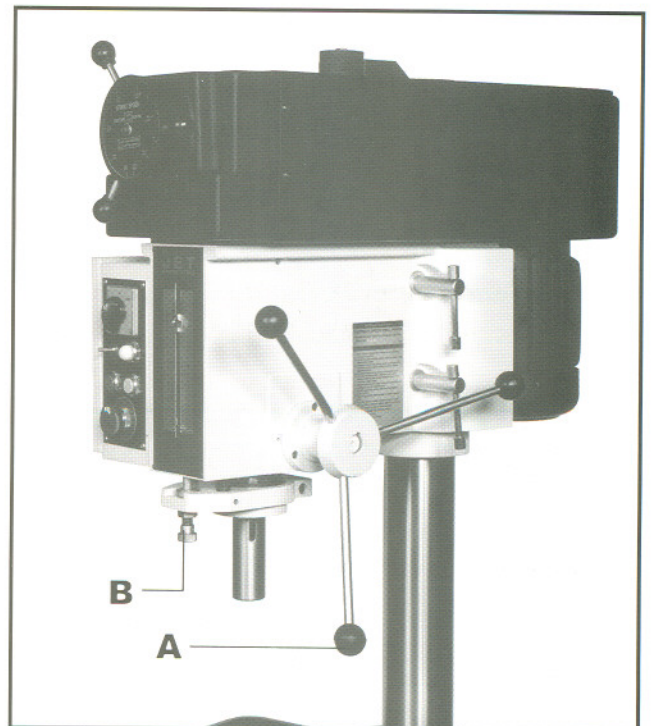

Fig. 7
1. Lower the quill to the bottom of its stroke by turning the handle (A, Fig. 7) counter-clockwise until it stops and hold in that position.
2. Turn the knurled knob (B, Fig. 7) until the pointer reads zero.
3. To set the depth stop, turn the knurled knob (B, Fig. 7) to the desired setting. The quill will now only advance to this setting.